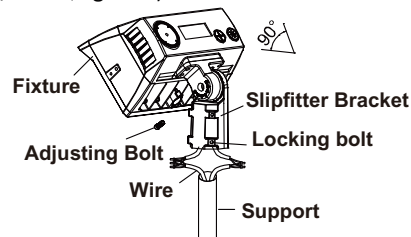

figure 6
Step 1: Connect the wire correctly and put the wire into pole. Then fasten the locking bolts between slip fitter and the pole. (Figure 6)
Notice: Adjustable angle is +/-90° (Figure 6)